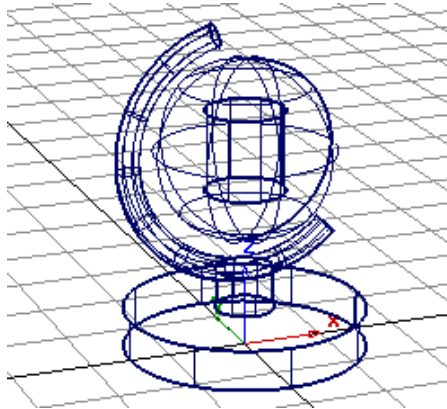

Figure 2-109 Model after creating the cylinder for the axial rod
2. Enter **0, 0, 250** in the promptline and press ENTER; the axial rod is created, as shown in Figure 2-109.